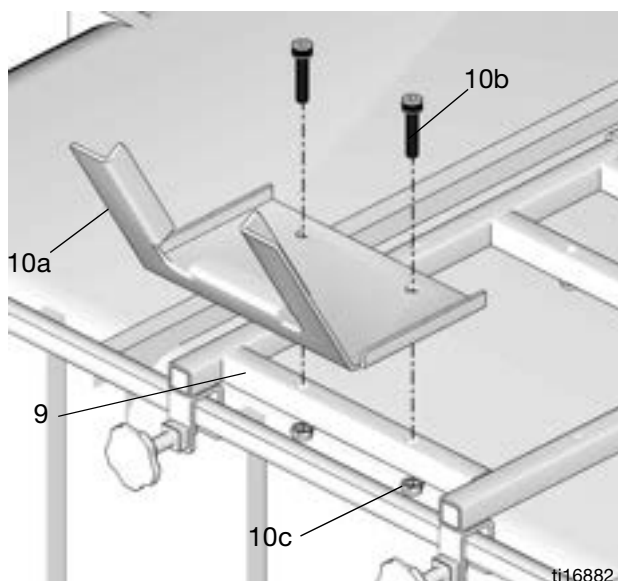

FIG. 15
1. Install the hose reel guide (10a) to the top bracket (9) and secure in place with the screws (10b) and nuts (10c) (FIG. 15).